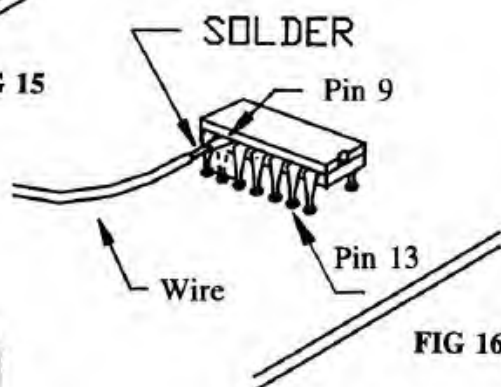

FIG 16
**Step 4** - Solder one end of an insulated wire to the pin of U8 modified in step 3. Refer to FIG 16. Be careful NOT to solder bridge adjacent pins of U8.